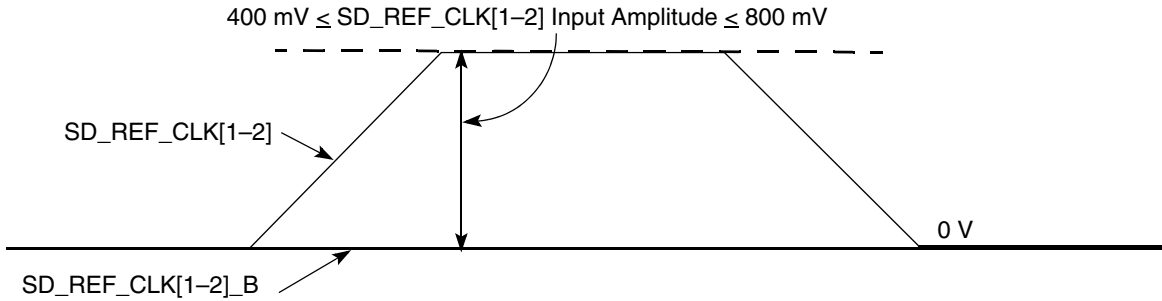

**Figure 40. Differential Reference Clock Input DC Requirements (External AC-Coupled)**
- For an external AC-coupled connection, there is no common mode voltage requirement for the clock driver. Because the external AC-coupling capacitor blocks the DC-level, the clock driver and the SerDes reference clock receiver operate in different command mode voltages. The SerDes reference clock receiver in this connection scheme has its common mode voltage set to  $GND_{SXC}$ . Each signal wire of the differential inputs is allowed to swing below and above the command mode voltage  $GND_{SXC}$ . Figure 40 shows the SerDes reference clock input requirement for AC-coupled connection scheme.